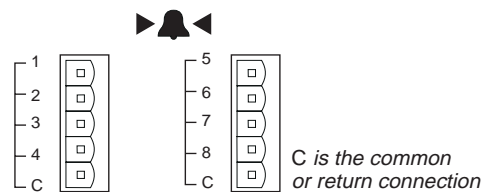

Figure 2. Alarm Input Connections
- Connect from each terminal to your alarm relays (see Figure 2)